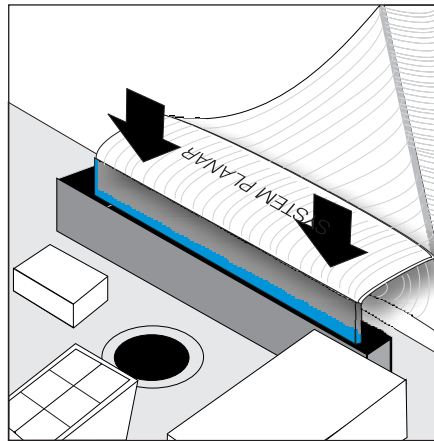

Figure 220. Installing the service controller cable into the SAN Volume Controller 2145-4F2 system board
12. *Carefully* install the end of the ribbon cable (marked System Planar) to the system board, being sure to install the cable straight in, as shown in Figure 220. Be sure to verify that the blue line on the cable connector end is not visible.